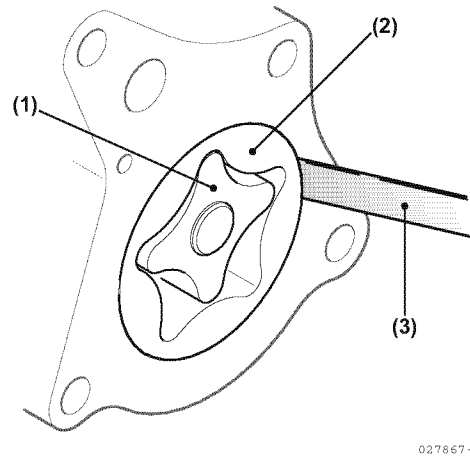

Figure 8-13
Figure 8-13 shows an example of a lubricating oil pump.
1. Using a feeler gauge, measure the clearance between the outer rotor (Figure 8-13 (2)) and the pump case.
2. Using a feeler gauge, measure the clearance between the outer rotor (Figure 8-13 (2)) and the inner rotor (Figure 8-13 (1)).